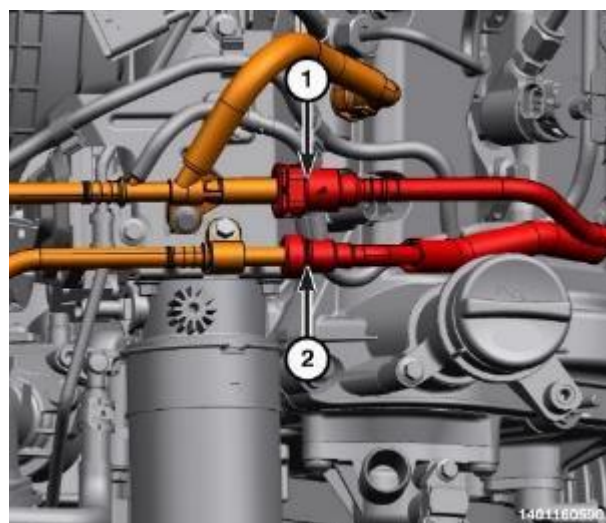

Figure 73 – Safety Clip
125. Install the fuel line supply safety clip (1) (Figure 73).